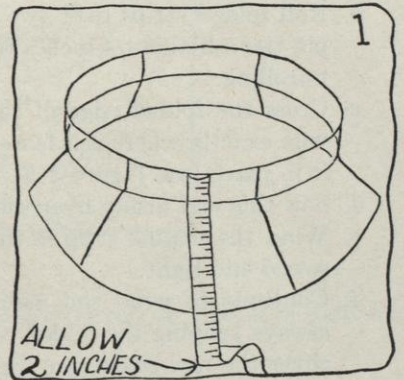
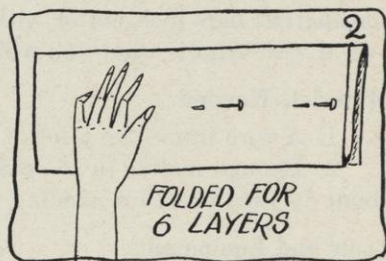

FIG. 1.
FIG. 2.
- b. Measure the brim from the top headsize to the edgewire in the widest part of the brim; allow 2 inches more, and jot down that measurement (see Figure 1).
c. Decide how many thicknesses you need. Four or six is the usual number in good quality maline. Fold it over and try it to see which you prefer, reading and following Sections (1) through (5).
(1) Fold the maline so that it measures *twice* the measurement written down (see Section 3 b), and *one half* of the desired number of thicknesses. Then when it is folded over the edgewire, it will have the desired number of thicknesses.
(2) Always plan how to fold your maline so that you will get the desired number of thicknesses in the most economical way possible.
(3) In order to cut economically, open the fold of maline whenever you have to; for instance, if the brim, as it is measured in Section 3 b, measures $4\frac{1}{2}$ inches you would have to fold each layer 9 inches wide and you would be able to get three widths out of one full width of maline, if you opened it (maline opened is 27 inches wide). This would give six layers, when it is folded over the edgewire. But if you did not open the maline, a strip about 4 inches wide, which might be wasted, would fall off the width, and you would have to cut into a second width of maline in order to get six layers. For four layers one rarely has to open the maline.
(4) When folding, pat the maline gently, lay it flat on your lap and put sufficient pins in it to hold each layer evenly (see Figure 2). Show the folded maline to your teacher to be sure that you have done it correctly.
(5) Pin through the center of folded layers of maline about every 4 inches (see Figure 2). These pins will be a guide in stretching.